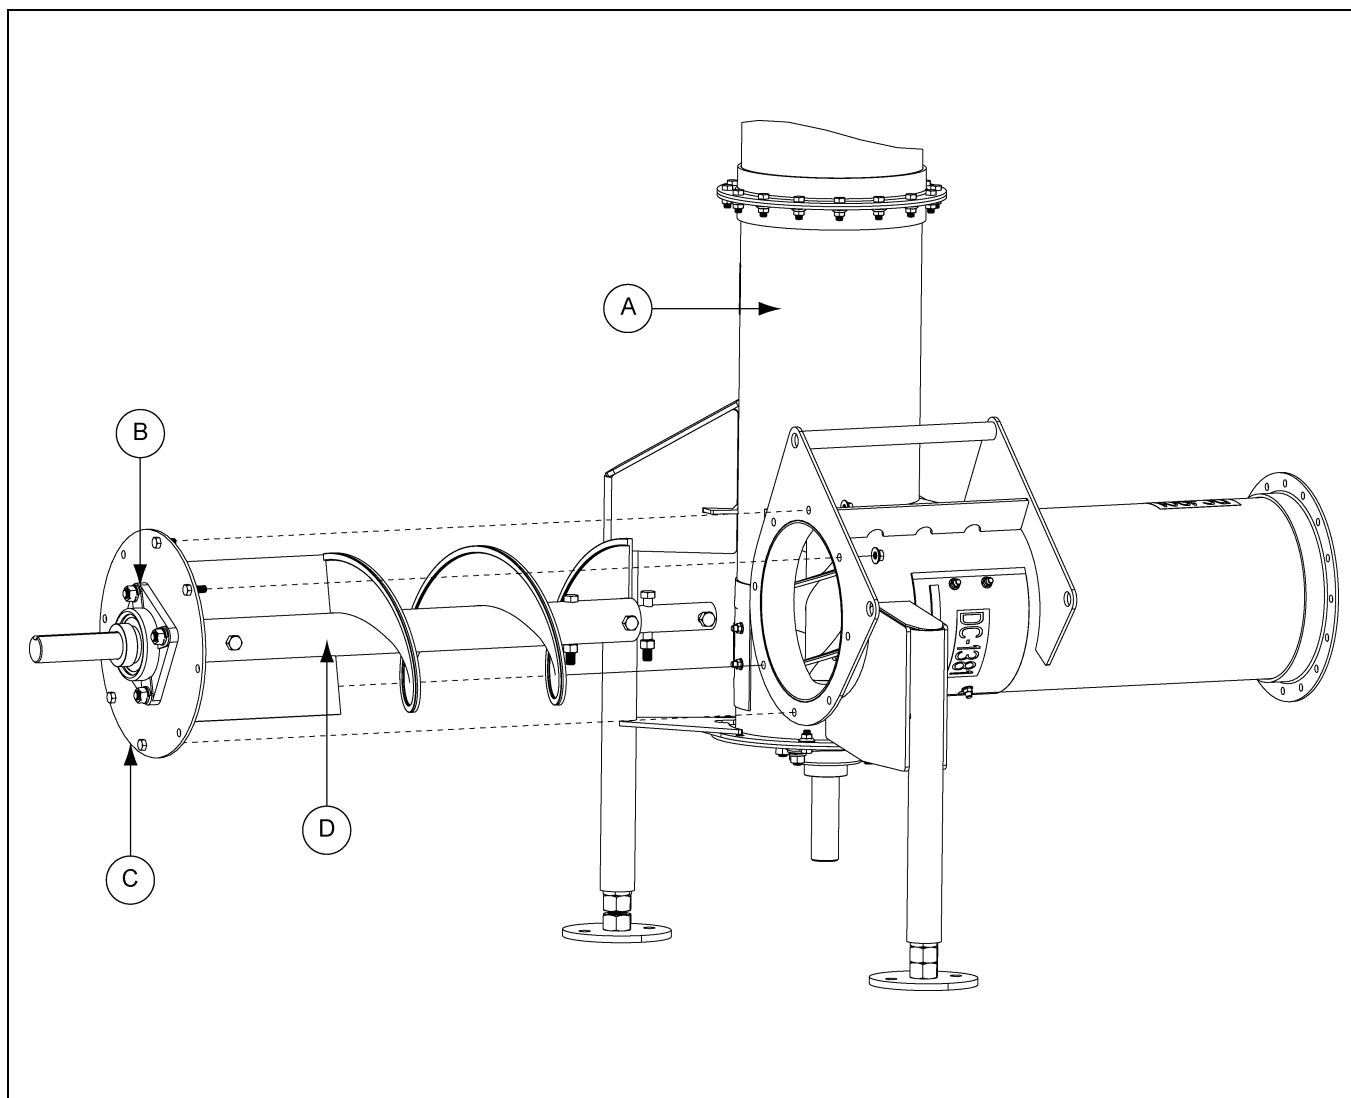

Figure 3A
- A. Unbolt the *horizontal bearing plate (C)* from the *vertical auger assembly (A)*. (See Figure 3A.) Set aside the *bearing plate (C)* with the *bearing (B)*, connecting hardware and the *horizontal flight (D)* until the auger is attached to the bin.